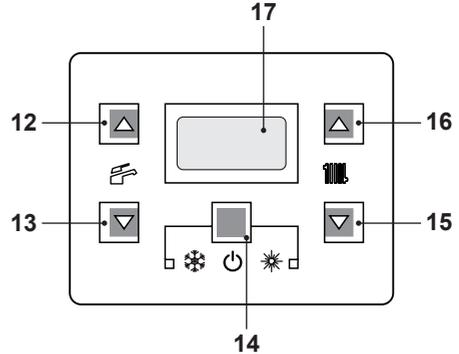
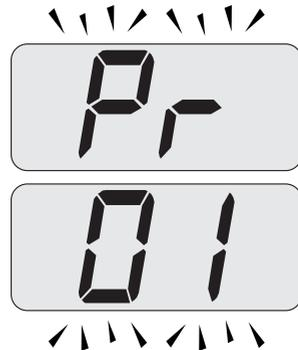
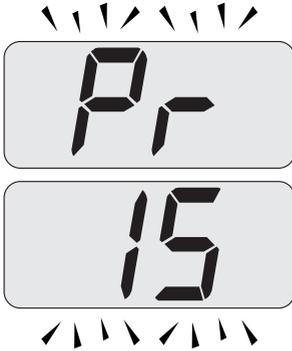

Fig. 7.17
Fig. 7.18
Fig. 7.19
- Enter in "programming mode" by pressing keys 14 - 15 - 16 (Fig. 7.17) for 10 seconds at the same time until the letters **Pr** that alternate with code 01 are displayed on the LCD display, indicating that "parameter 01", has been activated (Fig. 7.18).
- Scroll the various parameters using keys 15 or 16 until the letters **Pr** that alternate with code **15** are displayed on the LCD display, indicating that "parameter 15" (Fig. 7.19) has been activated.
- Press keys 14 and 16 (Fig. 7.17) at the same time until the value of parameter 15 (Fig. 7.20) is displayed on the LCD display.
- By pressing key 14 (Fig. 7.17) confirmation of the inserted value is obtained.
- Press keys 14 and 15 (Fig. 7.17) at the same time to exit without changing the value (return to the parameters list Fig. 7.19).
- Press keys 14 - 15 - 16 (Fig. 7.17) at the same time for 10 seconds to exit the "programming mode".
However, if the ambient temperature is not comfortable, the flow temperature of the heating plant can be increased or reduced by $\pm 15^\circ\text{C}$ by acting on keys 15 (reduce) and 16 (increase) (Fig. 7.17).